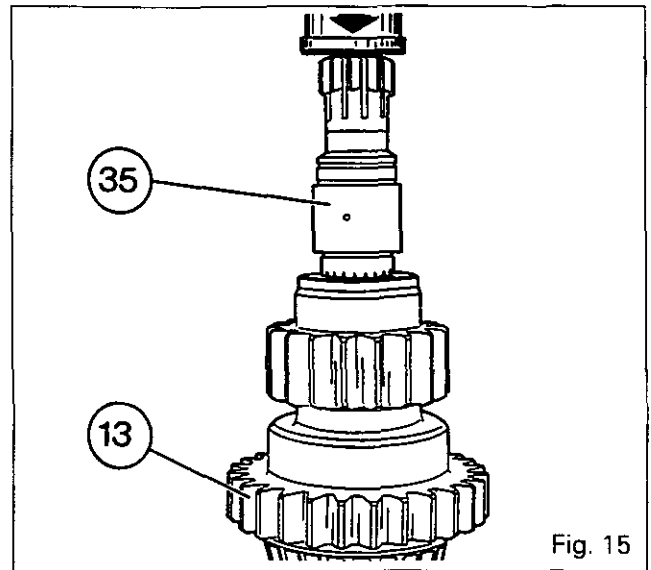

Fig. 15
101. Separate the pinion (13) from the shaft (35) with the aid of a press and a suitable tool (Fig. 15).